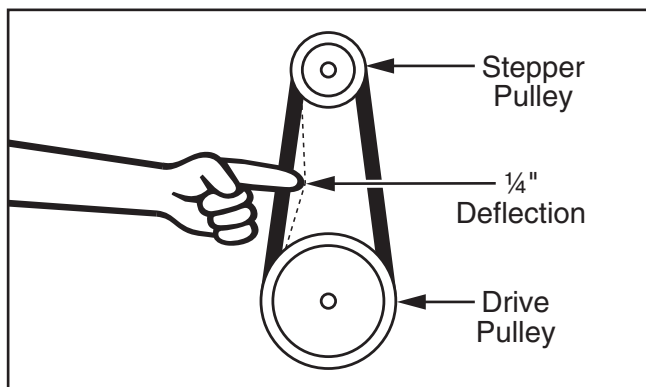

Figure 21. Checking belt tension.
7. Check belt tension on drive belt and verify there is approximately $\frac{1}{4}$ " deflection when belt is pushed with moderate pressure (see **Figure 21**).